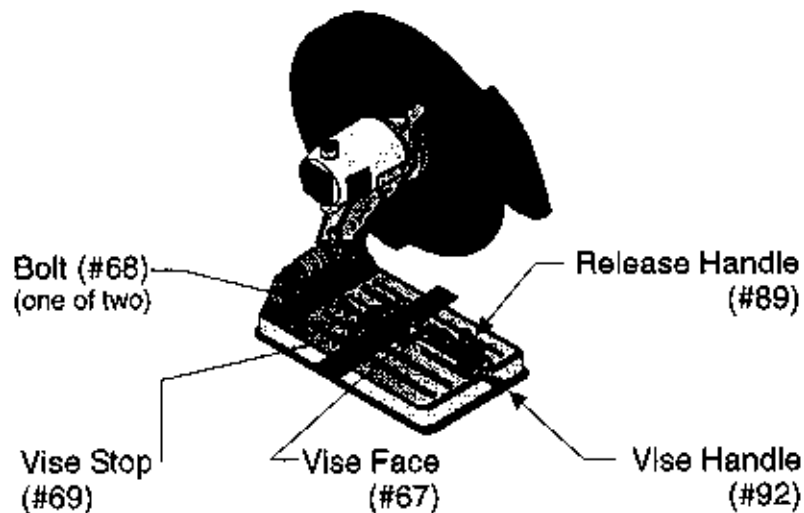

Figure 3 – Operating the Vise Assembly
Step 2: Loosen the two BOLTS (#68) as shown in Figure 3 and move the VISE STOP (#69) to the desired position. Tighten the BOLTS.